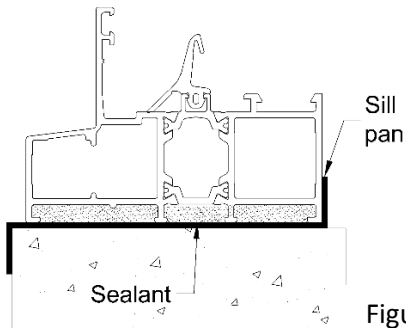

Figure 3a
5. Apply a continuous bead of sealant across the entire sill of the opening where the door frame will sit as shown in figure 3a and 3b. (Sealant should conform to AAMA 802.3-16 and 803.3-16)